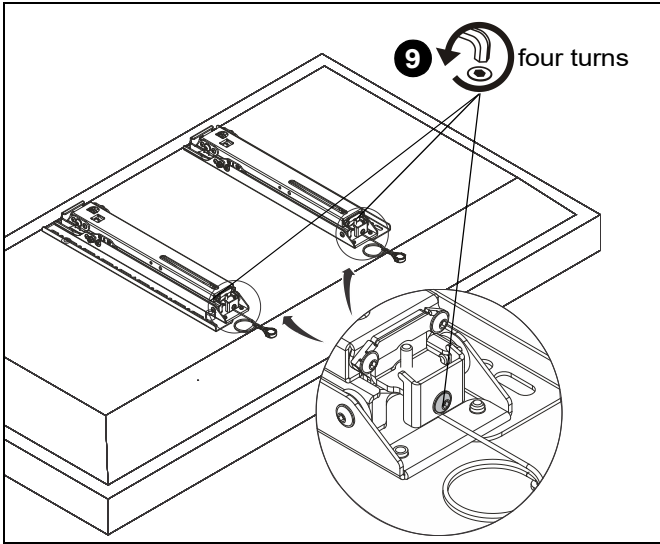

Figure 22
9. Loosen two button head cap screws at bottom of each interface bracket (A and B) at least four turns. (See Figure 22)